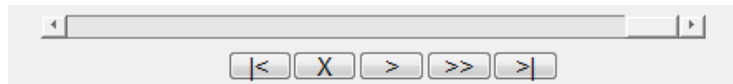

Figure 5.5: The Playback Control Group for Slice Profile
The horizontal axis is the spin position in meters, and the vertical axis is the value of the components in normalized units. MRiLab also plots the RF and gradient waveform below the slice profile. In MRiLab, the RF pulse is defined using RF amplitude (T), RF phase (rad) and RF frequency (Hz). The RF frequency is defined as the spin Larmor frequency minus the laboratory frequency of the RF pulse. Notice that in the figures, the gradient amplitude is in G/cm and RF amplitude is in G. Both time axes are in units of milliseconds. At the bottom of this interface, there is a group of buttons (Figure 5.5) that enable the user to investigate the intermediate slice profile during the applied RF and gradient (Figure 5.6).